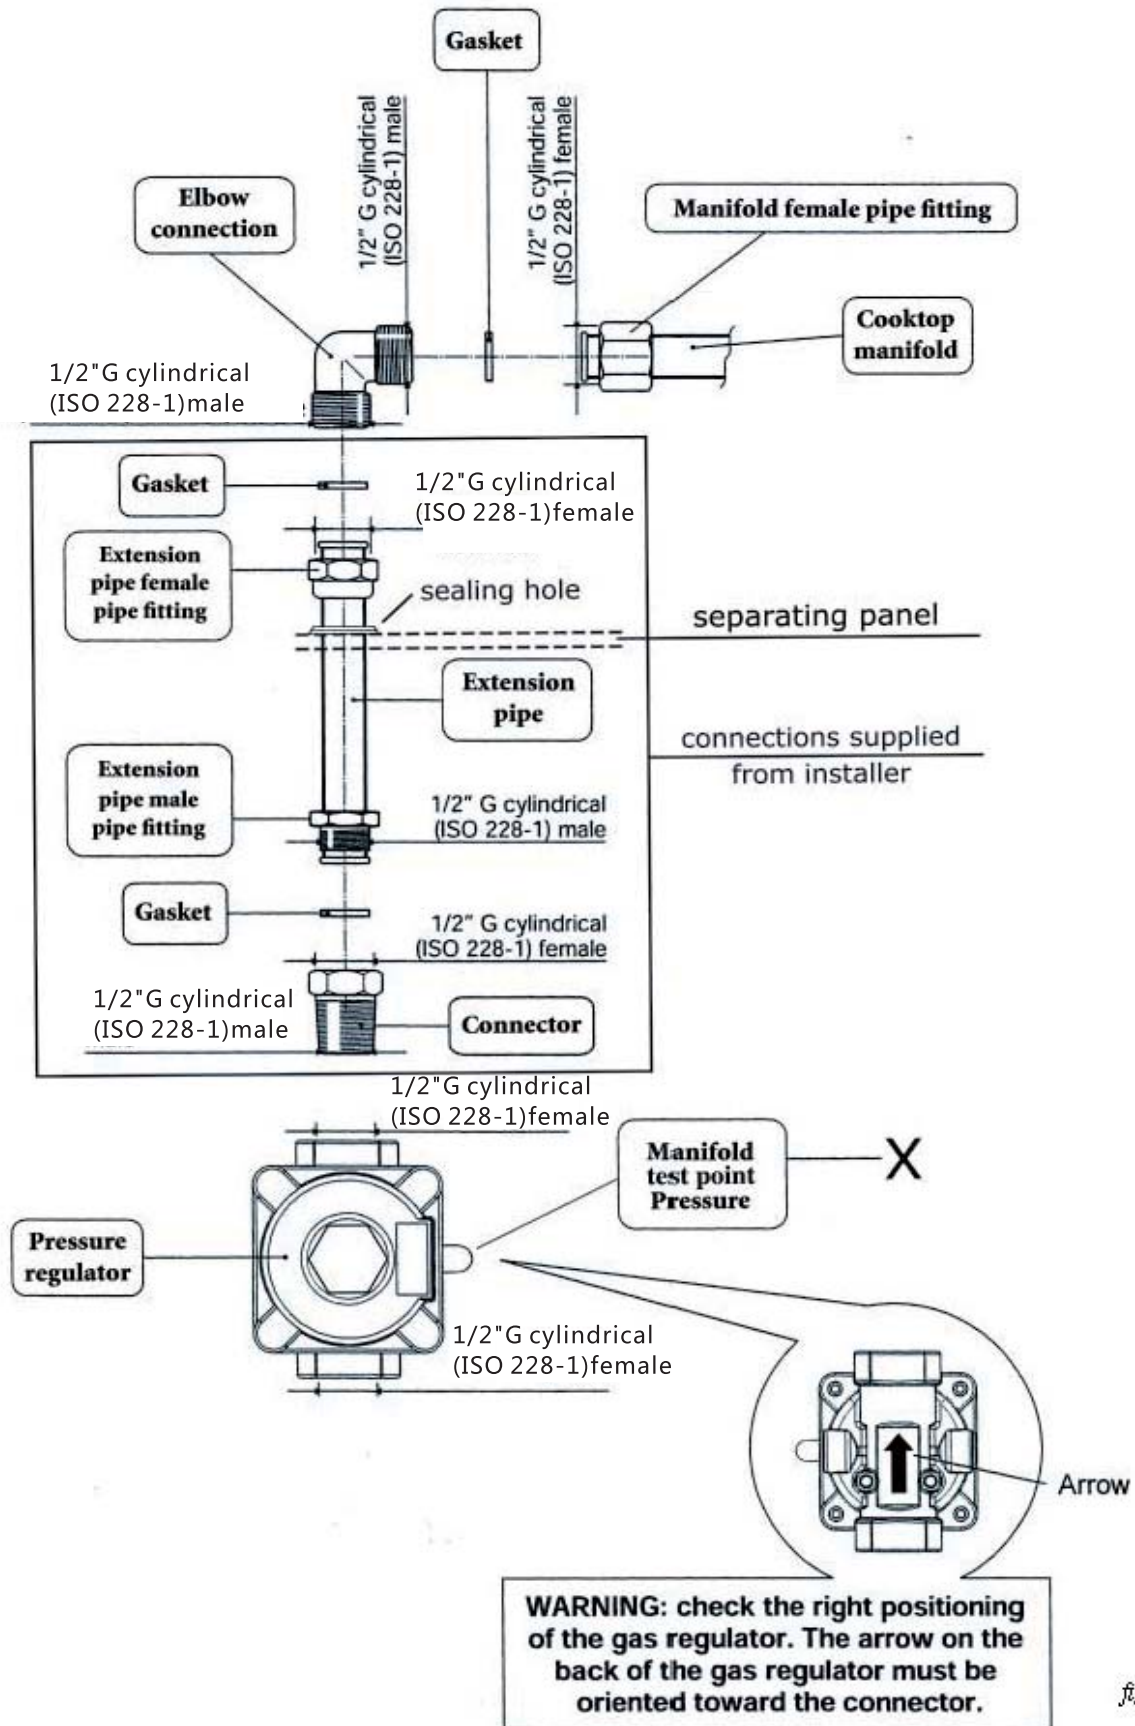

fig. 5.2
2. Pressure Regulator (figures 5.2)
d) Manifold pressure should be checked with a manometer. NATURAL gas requires 1.0kpa and LPG/PROPANE requires 2.75kpa (see Figure 5.2).